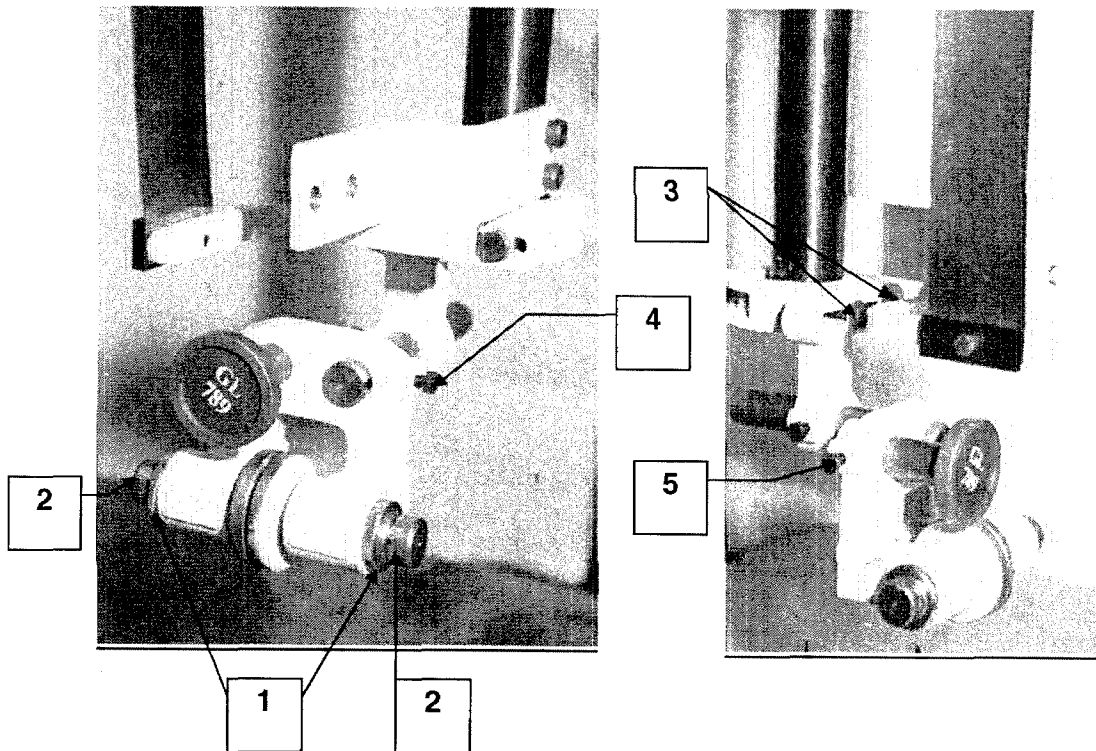

Figure 5.5
5.5 Setting the Top Saw Guide Unit (Figure 5.5)